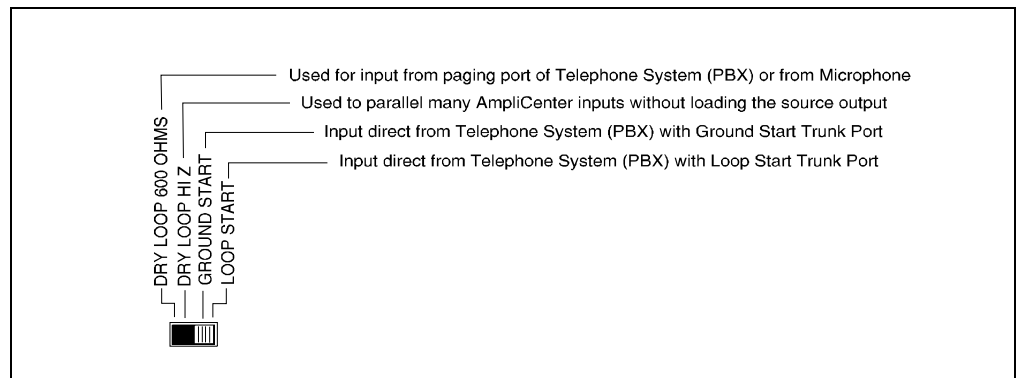

Figure 6. Telephone Mode Switch Setting
5. Set the AmpliCenter Telephone Mode Selection Switch (see Figure 6) to match the page output type of your telephone system.